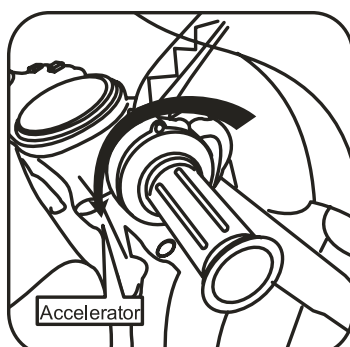

Fig.2 Accelerator
3. When riding, hold the handlebars firmly with both hands and the right hand shall hold slightly the handlebar (Fig.2) and turn it backward, when the motorcycle moves forward the headlight with bright, the handle shall remain the same position and to stop the moto cycle, turn it to the original position and the motorcycle will stop. (Do remember not to ride the motorcycle under high speed when you are not familiar with it.)